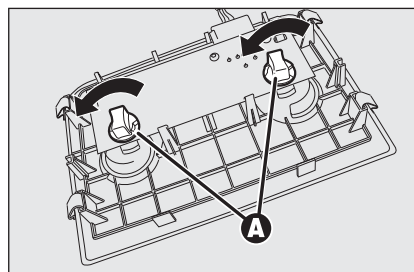

fig. 43
- turn the 2 bulb holders **A-fig. 43** counter-clockwise, remove and replace bulbs.